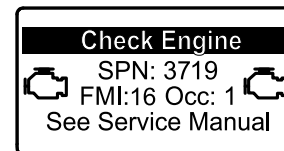

Figure 47
- If a parked regeneration is needed, the InfoCenter displays engine warning SPN 3719, FMI 16 (Figure 47) and the engine computer derates engine power to 85%.